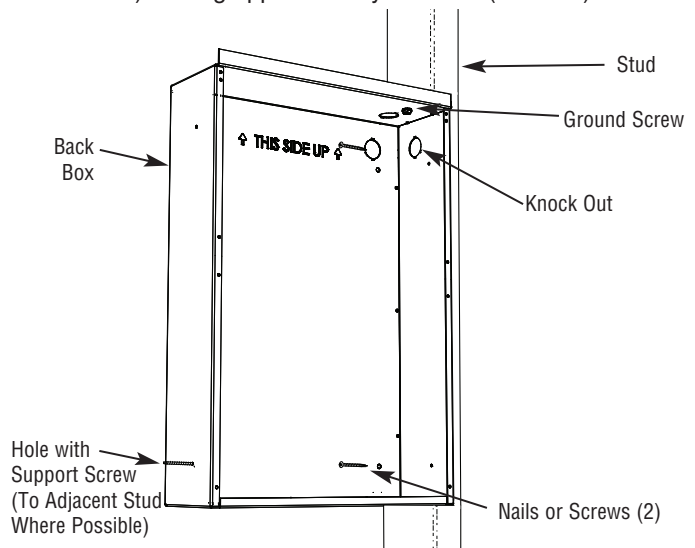

Figure 2 - Attaching Backbox to Stud
1. In new construction without the finished wall in place, position the back box against the side of stud allowing the side to extend beyond the stud so it will be flush with the finished wall surface. (You must know the thickness of the finished wall when installing) Secure the box to the stud using two screws (not included) as shown in Figure 2.
- When possible, install an additional long screw (such as a 3" wood screw) through the lower side mounting hole into the nearest stud (see Figure 2). Use care and do not over-tighten the screw as this will deform the backbox and make installation of the heater assembly difficult or impossible. Screw should only be tightened enough to keep screw in place.
- Drill a small hole in back box flush with the inside surface of the finished wall and install a screw (length not critical, but should be at least 1 inch) see Figure 2.
- Locate a stud and carefully mark and cut a hole measuring 12-1/2" (318 mm) wide by 17-3/4" (451 mm) high so one side of hole is along the edge of a stud – see Figure 2.
- Fit back box into opening aligning sides of box flush with finished wall surface and secure box to stud using two screws (not included) as shown in Figure 2.
cause the back box to pull out of alignment. See Figure 2.